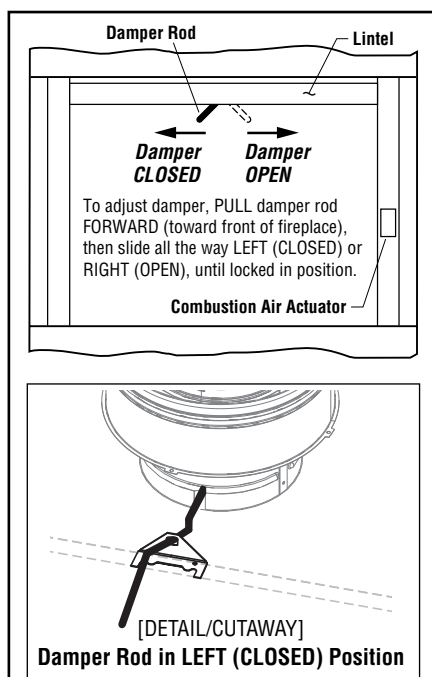

Figure 2
1. To properly start a fire in a the fireplace, first check the operation of the flue damper (see "DAMPER CONTROL" and *Figure 2, next page*).
The damper is controlled through the use of a damper rod inside the top center of the firebox opening, behind the lintel (**Figure 2**).